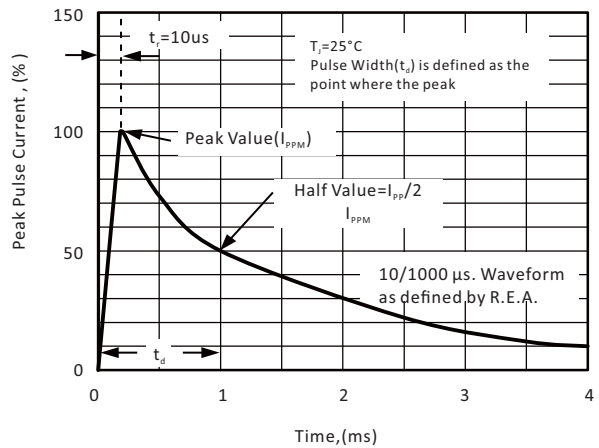
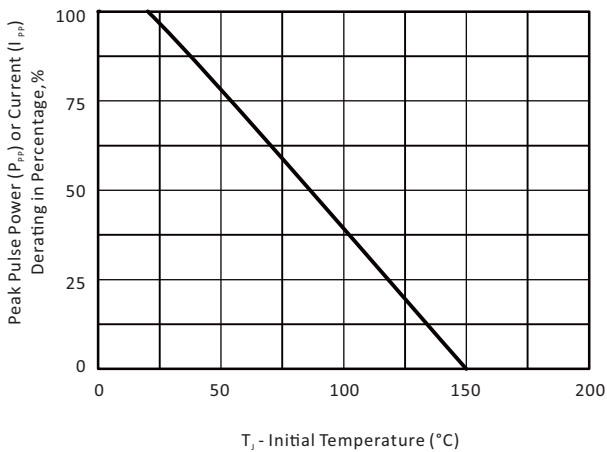

Fig. 3 - Pulse Waveform
Fig. 2 - Pulse Power or Current vs. Initial Junction Temperature
- (1) Non-repetitive current pulse, per fig. 3 and derated above  $T_A = 25^\circ\text{C}$  per fig. 2
- (2) Measured on 8.3 ms single half sine-wave, or equivalent square wave, duty cycle = 4 pulses per minute maximum
- (3) Pulse test: 300  $\mu$ s pulse width, 1 % duty cycle
- (1)  $V_{BR}$  measured after  $I_T$  applied for 300  $\mu\text{s}$ ,  $I_T$  = square wave pulse or equivalent
- (2) Surge current waveform per fig. 3 and derated per fig. 2
- (3) To calculate  $V_{BR}$  vs. junction temperature, use the following formula:  $V_{BR}$  at  $T_j$  =  $V_{BR}$  at  $25^{\circ}\text{C}$  x  $(1 + \alpha T \times (T_j - 25))$